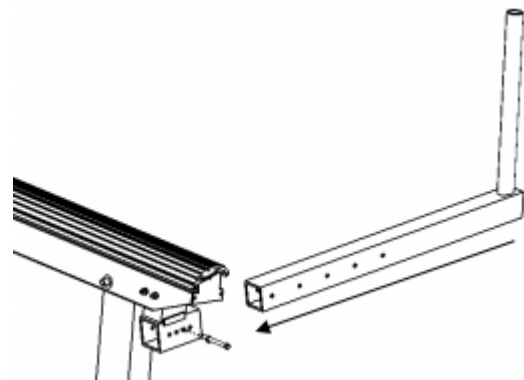

Figure 18
1. Insert the Guide Pole into the Guide pole Mounting Bracket so that the Guide Pole arm is facing outward and upward as shown in Figure 18.
3. Attach one (1) Flat Washer to one (1) Hex Bolt and insert into the mounting hole.
4. Attach one (1) Flat Washer, one (1) Lock Washer, and one (1) Hex Nut to the protruding end of the Hex Bolt and fasten with appropriate wrench until secure.